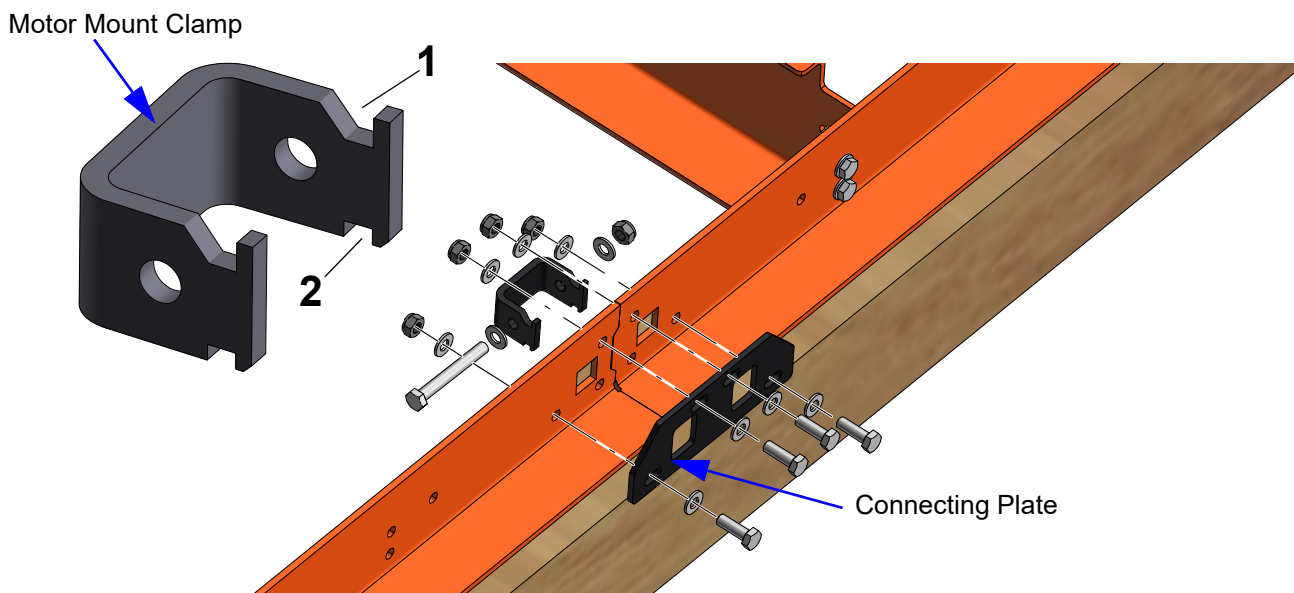

FIG. 2-5
- Connect the bed sections using the connecting plate, clamp and bolts shown in Figure 2-5. Set the clamp in place by inserting the smaller notch ② in first and tilting the clamp in then upward to catch the larger notch ①.
See figure 2-5.